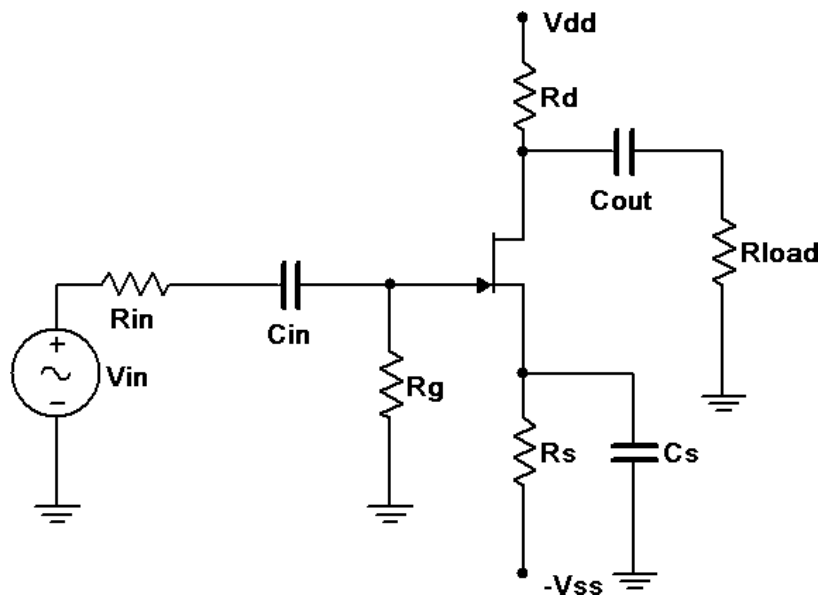

Figure 1
1. Consider the circuit of Figure 1 using $V_{dd} = 15$ volts, $V_{ss} = -3$ volts, $R_{in} = 33$ k Ω , $R_g = 330$ k Ω , $R_s = 4.7$ k Ω , $R_d = 4.7$ k Ω , $R_{load} = 22$ k Ω , $C_{in} = C_{out} = 10$ μ F and $C_s = 470$ μ F. Assuming $V_{GS} = -2$ volts and $g_m = 2$ mS (4 mS if using the J112), determine the theoretical gain and input impedance of the circuit and record these in Table 1.
2. Build the circuit of Figure 1 using $V_{dd} = 15$ volts, $V_{ss} = -3$ volts, $R_{in} = 33$ k Ω , $R_g = 330$ k Ω , $R_s = 4.7$ k Ω , $R_d = 4.7$ k Ω , $R_{load} = 22$ k Ω , $C_{in} = C_{out} = 10$ μ F and $C_s = 470$ μ F. Set V_{in} to a 100 mV peak sine at 1 kHz. Measure the voltages at the gate and load, and record these in Table 1. Capture images of the input and gate voltages, and the gate and load voltages. Note whether